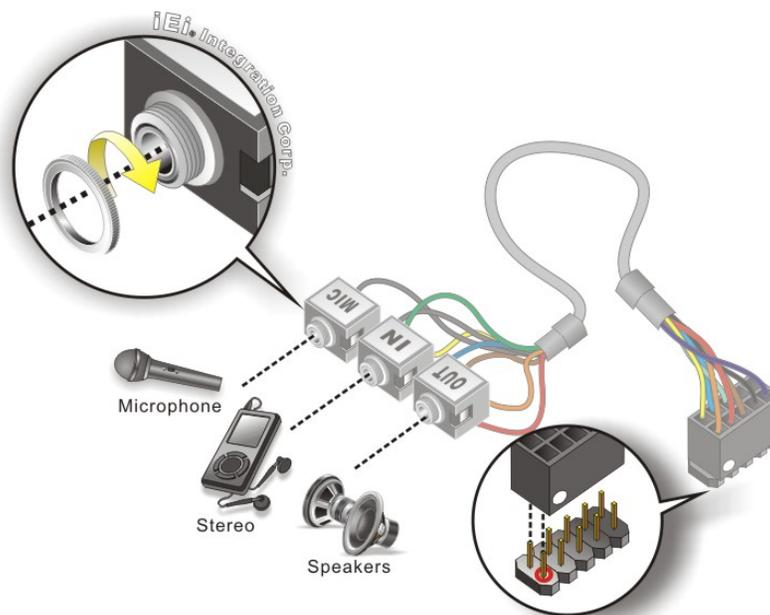

Figure 4-8: Audio Kit Cable Connection
Step 2: **Align pin 1.** Align pin 1 on the on-board connector with pin 1 on the audio kit connector. Pin 1 on the audio kit connector is indicated with a white dot. See **Figure 4-8**.